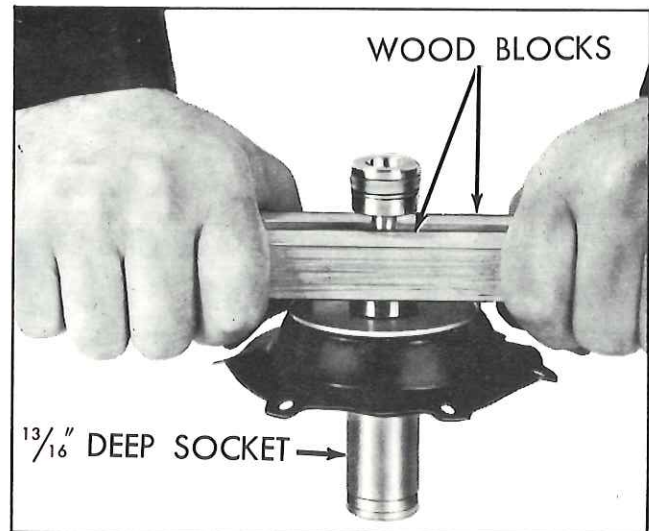

Fig. 15—Installing Diaphragm Retainer
5. Use a 13/16 inch deep socket as a pilot for the new diaphragm retainer. Press against the piston shoulder on first stage side, (fig. 15) to position diaphragm retainer. The wood blocks used in the illustration are each 3/4"x3/4"x12". **NOTE:** Position diaphragm retainer securely to effect air tight seal against corprene washer.